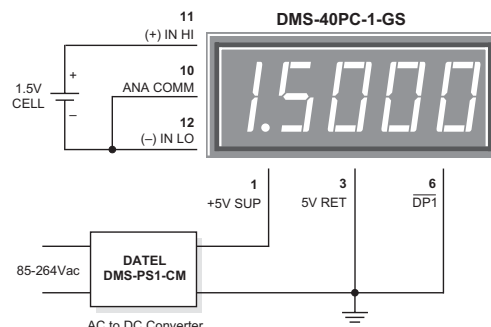

Figure 5. Floating Input Measurements
4. Floating Signal Source Measurements: A floating input is a signal that, before it is applied to the DMS-40PC's inputs, has no galvanic connection (direct current path) to the meter or the meter's power supply. The circuit shown in Figure 5 illustrates the necessary connections for measuring floating inputs. The 1.5V battery represents a true floating input signal since it initially has no connection whatsoever in common with the meter. Real-world floating inputs typically originate from power supplies which are transformer isolated from the DMS-40PC's +5V supply.
As the timing diagram in Figure 5 indicates, 100Hz is the optimum display scan rate when the BCD outputs are used to drive external LED displays. Faster scan rates, while permissible, are not necessary. Slower scanning, however, may result in noticeable "flickering" of the display. Common anode LED's, combined with a 74LS247 BCD to seven-segment decoder, is the